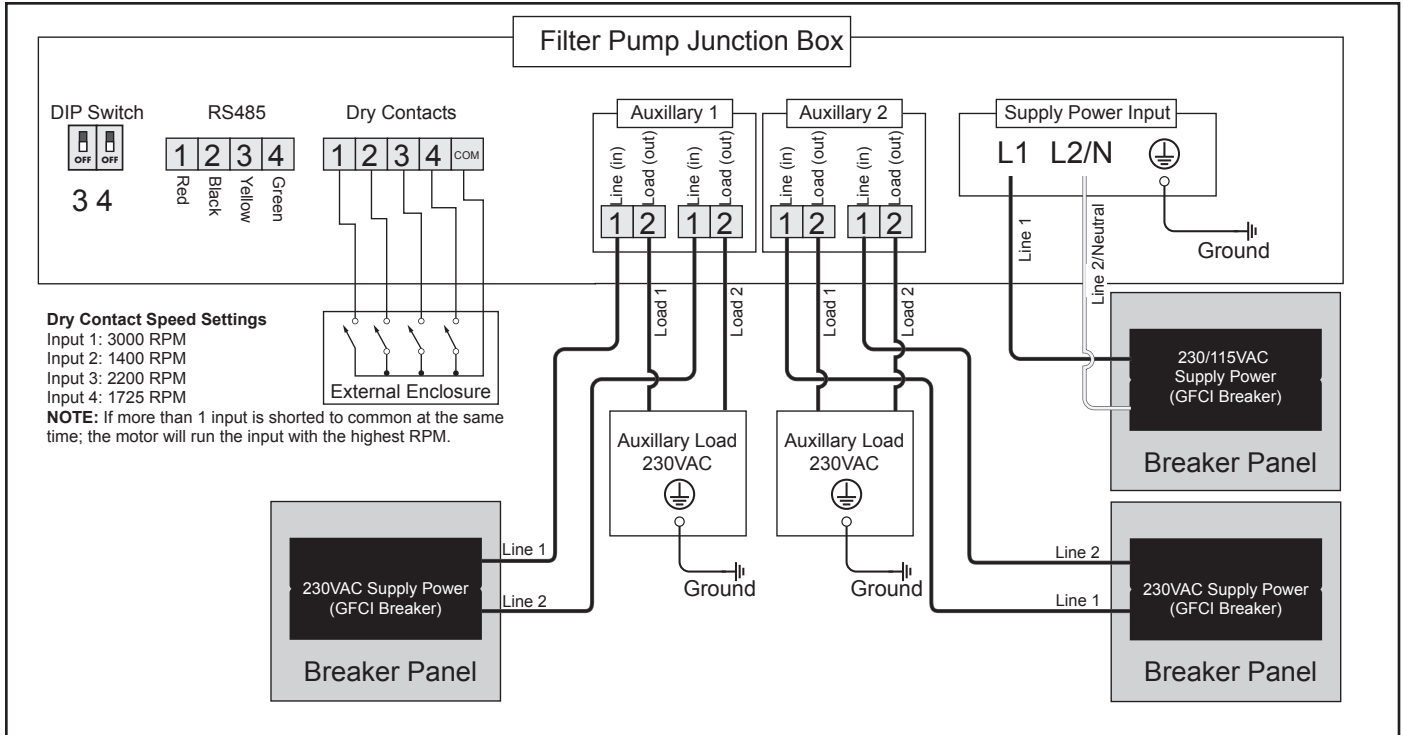

Figure 10. 230V Auxiliary Relay Wiring Diagram\*
**NOTE:** When power alone is supplied to this pump, it will not operate. It requires a digital command sent to it by either a variable speed controller (JEP-R, iQPUMP01), an automation system, or use of the dry contacts (See figure 10 and 11).
See Figures 10 and 11 for compartment's location details.
Dry contacts can be used as a controller if a Zodiac controller is not connected to the RS-485 line. By jumping one of the inputs to common, it will turn on the pump, prime, and go to a pre-determined speed indefinitely until the short is broken (See Figure 10 & 11). If no inputs are jumped to common, the RPM is zero. These speed settings cannot be changed unless a Zodiac controller is connected. When any Zodiac controller is connected through RS-485, all dry contact commands will be ignored.